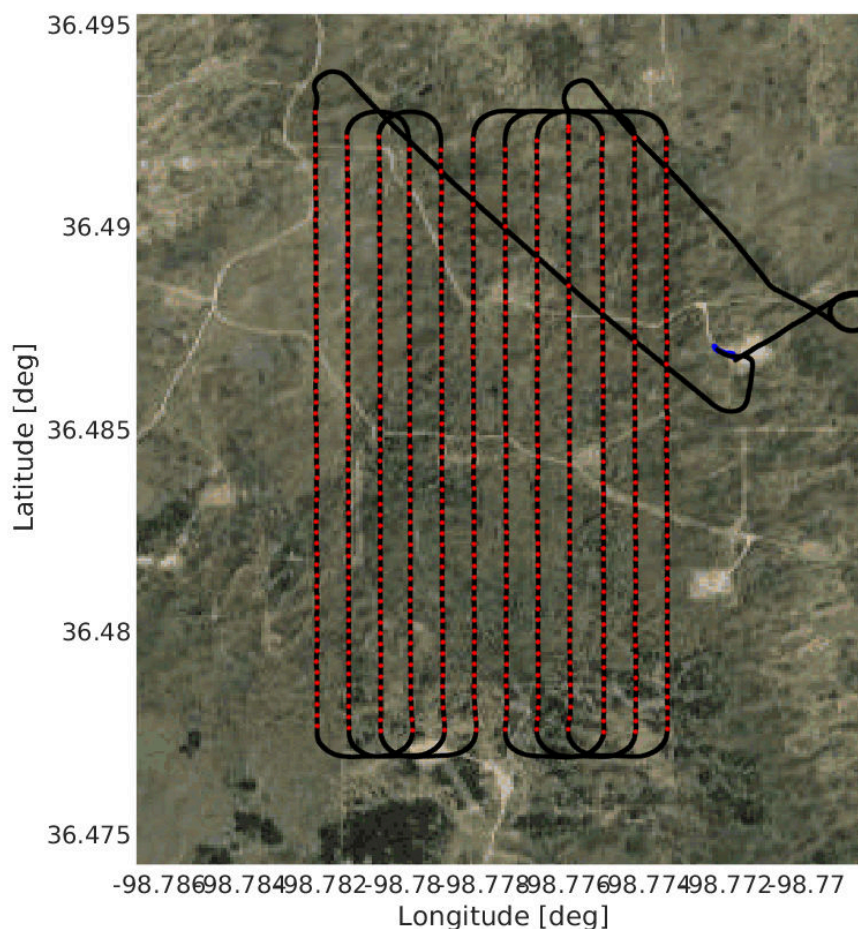

Figure 6: Path and photo locations (in red) from a SwiftTrainer™ flight.
- **Accurate Ground Tracks:** The SwiftTrainer™ flies extremely accurate ground tracks compared to competing systems. It's critical to have a regularly spaced grid for sampling. Not holding tight to those flight lines could cause loss of image overlap and may require the operator to re-fly missions, which can be very costly. Figure 6 shows the results from a SwiftTrainer™ mapping mission.